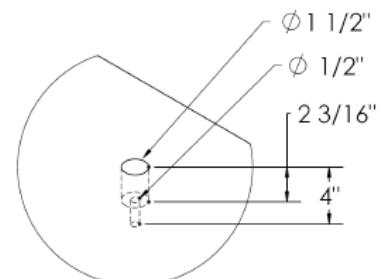

Figure 4
2. Use a 1- 1/2" diameter concrete core drill to drill out the anchor holes to a depth of 2- 3/16" as shown in figure 4. Clean all of the debris from the holes. Check to see if the bottom of each hole is in solid concrete. The anchors will only hold if the surrounding concrete is solid. The top of the anchor should be $\frac{1}{4}$ " below the deck surface. The anchors can be installed deeper, if necessary, to mount sufficiently solid concrete.
4. Screw the Leveler Pad into the base assembly as shown in figure 4.